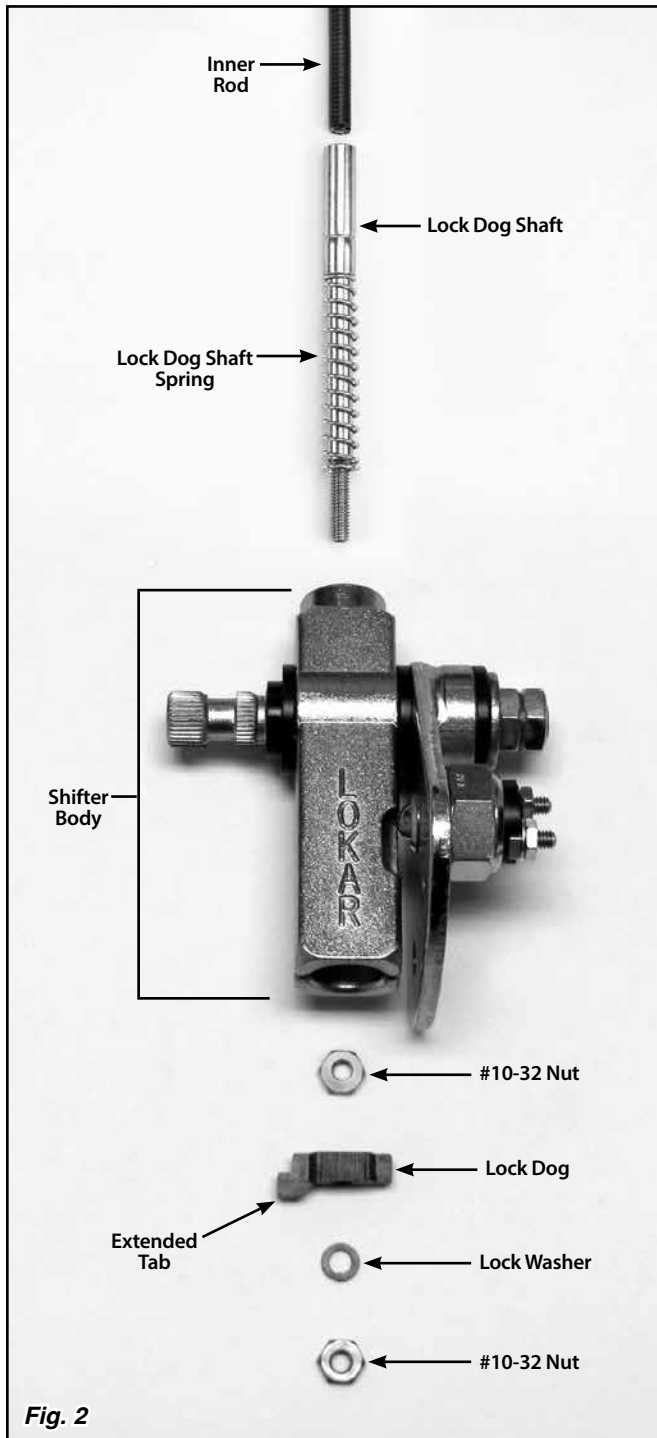

Fig. 2
**Step 5:** Hold the lock dog shaft firmly just above the shifter body with a pair of pliers, and remove the #10-32 nut and lock washer from the bottom end of the shaft using a 3/8" socket. Slide the lock dog off of the shaft and remove the other #10-32 nut. Pull the inner rod and lock dog shaft completely out of the shifter body, being careful not to lose the lock dog shaft spring. **Fig. 2**
**Step 7:** Install the new inner rod into the new lock dog shaft, making double sure that the inner rod is FULLY seated in the lock dog shaft. Install the inner rod and lock dog shaft into the shifter body. Install one of the #10-32 nuts onto the inner rod, leaving 1/2" of exposed threads. Reinstall the lock dog with the extended tab on the bottom left as shown in Fig. 2. Apply blue thread locking compound to the threads on the inner rod, and install the lock washer and remaining #10-32 nut onto the inner rod.